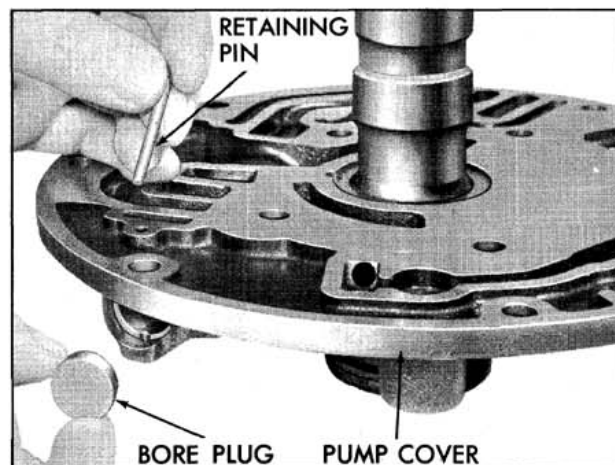

Fig. 6-104 Removing Pin and Bore Plug
8. Remove the retaining pin and bore plug from the pressure regulator bore. (Fig. 6-104)